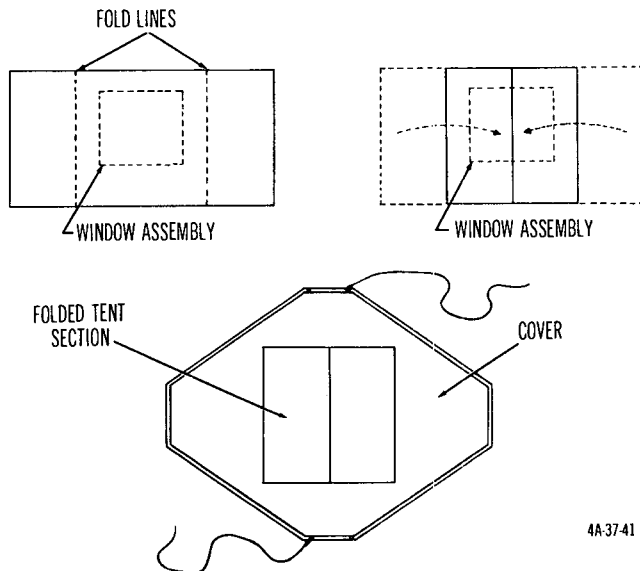

Figure 62. *Folding and packing tent intermediate section of tent, frame-type, maintenance, medium light metal.*
(4) *Folding outer fabric intermediate sections* (fig. 62).